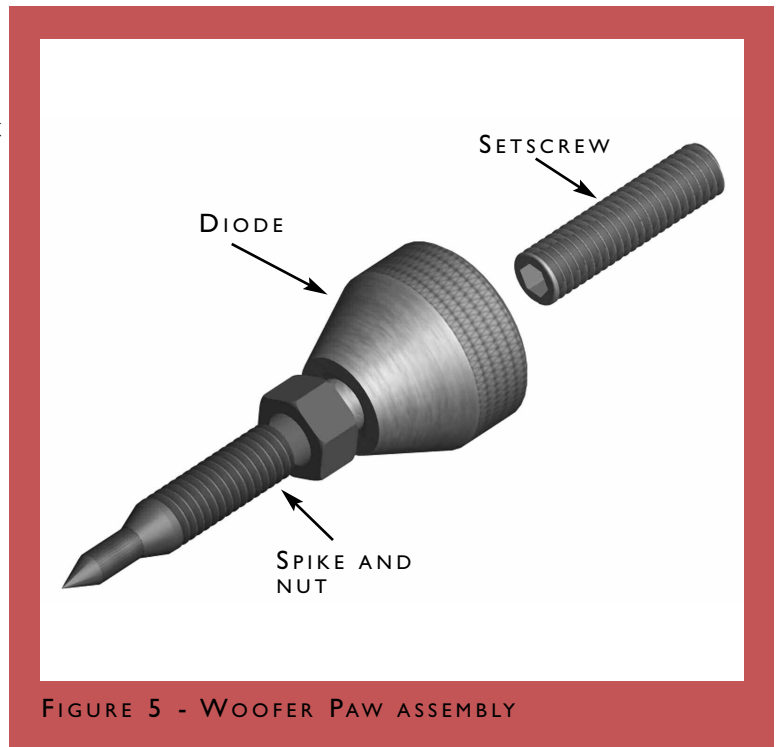

FIGURE 5 - WOOFER PAW ASSEMBLY
- Place the setscrew into the other end of the diode with the Allen head toward the spike. This will ensure that if for any reason you have to remove your MAXX spikes, you will be able to withdraw the setscrew safely using the supplied Allen wrench. Screw the setscrew into the diode until it meets the spike (see Figure 5).